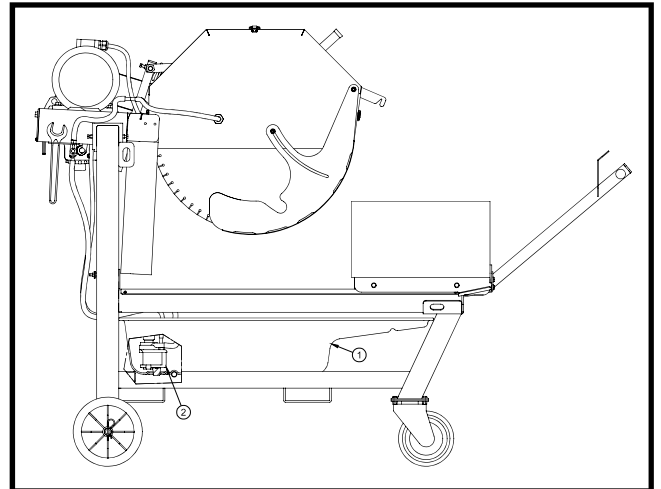

FIG. 7
17.2 Tank removal (ref.1, fig.7)